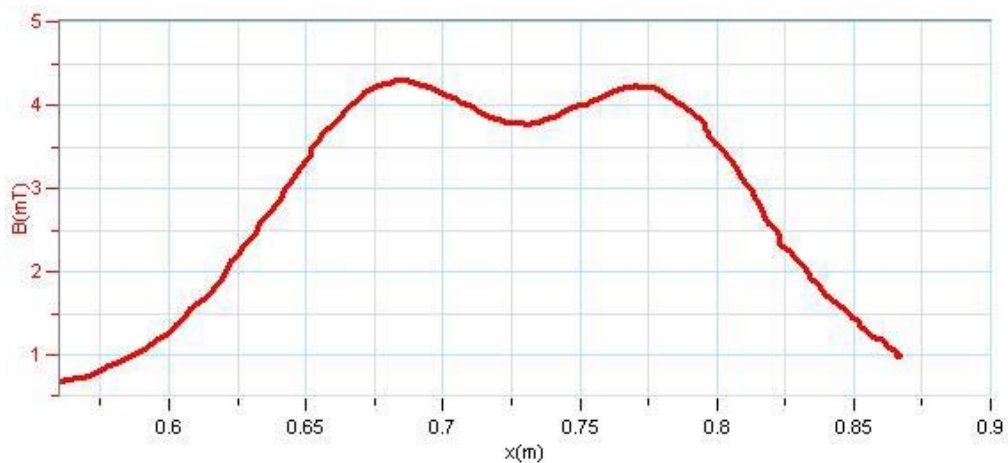

Figure 5
2. Change the distance between the coils to a centimeter or two more than the radius and repeat the experiment. Discuss the uniformity of the magnetic field in this case (see Figure 5).